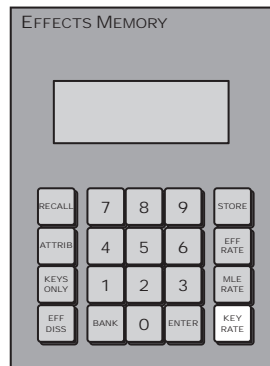

Figure 5.17 *Keyer Rate — Effects Memory Module*
1. Press **KEY RATE** on the **Effects Memory Module** for the MLE that you want to set the keyer transition rate for (**Figure 5.17**).